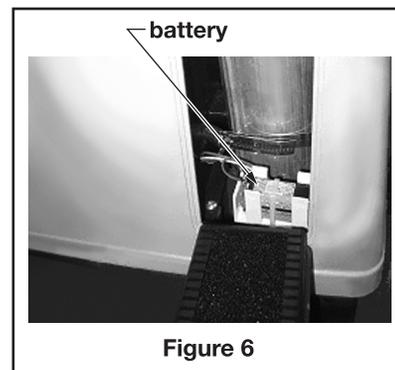

Figure 6
2. For earlier models, use a small blade screwdriver to open the battery access door; for later models, open the left side filter grill (see Figure 6).